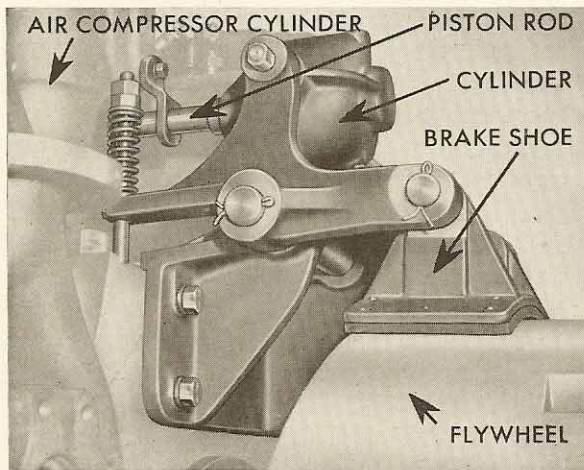

FIGURE 5-13
31. BRAKE: When reversing from ahead to astern, or vice versa, you **MUST WAIT UNTIL THE ENGINE STOPS BEFORE COMPLETING THE MANEUVER**. Stopping is brought about quicker by means of a brake that brings a shoe against the flywheel rim as shown in Figure 5-13.